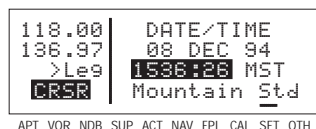

Figure 4-189
7. Press **[ENT]** to start the KLX 135 using the newly entered date (figure 4-189).